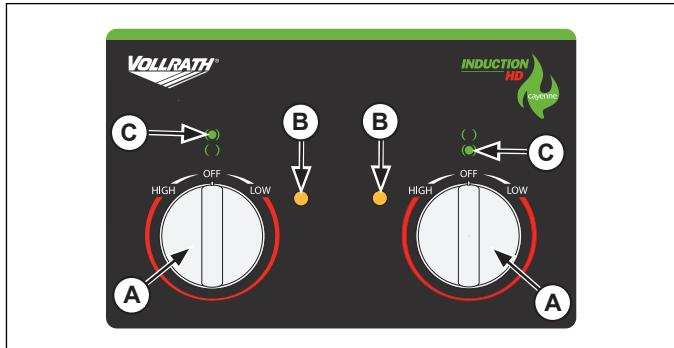

Figure 1. Manual Model Control Panel
1. Rotate the control knob (A) to the desired setting. See Figure 1. The indicator led light (B) will illuminate steady when an induction ready pan is on the hob and the control knob is set between the "low" to "high" range. The indicator led light (B) blinks when no pan or a non induction ready pan is on the hob and the control knob is set between the "low" to "high" range.